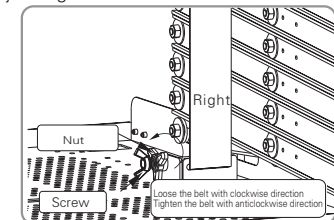

Figure17
- Right height adjustment (Figure 17), firstly unscrew the right adjusted nut from middle to left, then you can release or tighten belt by turning right screw. Turning clockwise to release belt and would lower height of right side. Inversely, turning counterclockwise to tighten belt and upper height of right side.